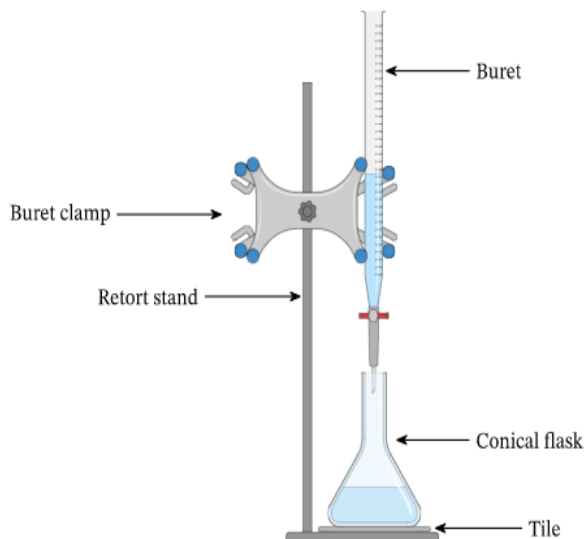

Figure 11.5: Determination of the relative atomic mass of the metal M in a metal hydrogen sulphate ($MHSO_4$)
4. Add 1-2 drops of phenolphthalein indicator to the conical flask. Place the flask over the glazed tile as demonstrated in figure 11.5. What do you observe?